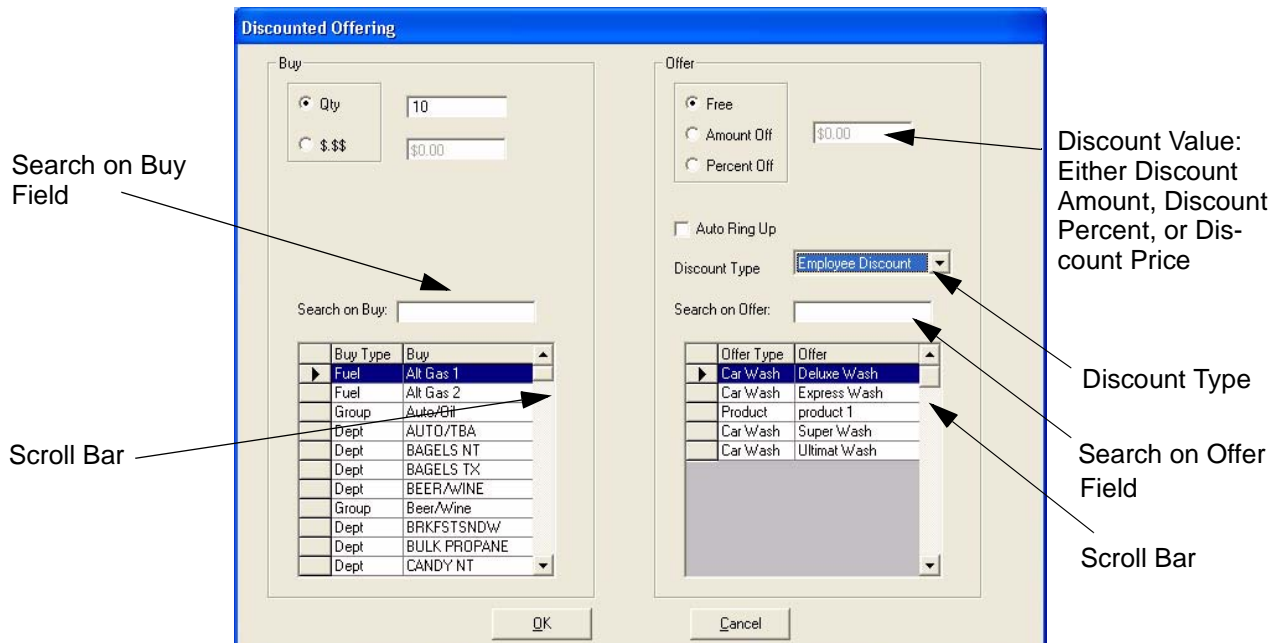

Figure 13-3 Discounted Offering Window
2. Select **Add** or **Modify** to program Discounted Offerings or modify existing Discount Offerings. The Discounted Offering window will appear. See Figure 13-3.